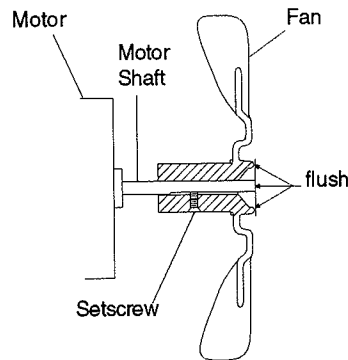
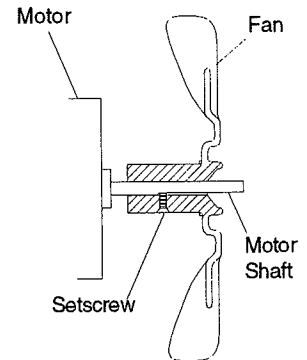

Figure 11 - Fan Cross Section, Models 2E510D, 2E511C, and 3E218C
Figure 12 - Fan Cross Section, Model 3E219C
6. (Models 2E510D, 2E511C, and 3E218C) Replace fan on motor shaft. Place fan hub flush with end of motor shaft (see Figure 11). (Model 3E219C) Replace fan on motor shaft. Make sure set screw is touching back of flat surface on motor shaft (see Figure 12).